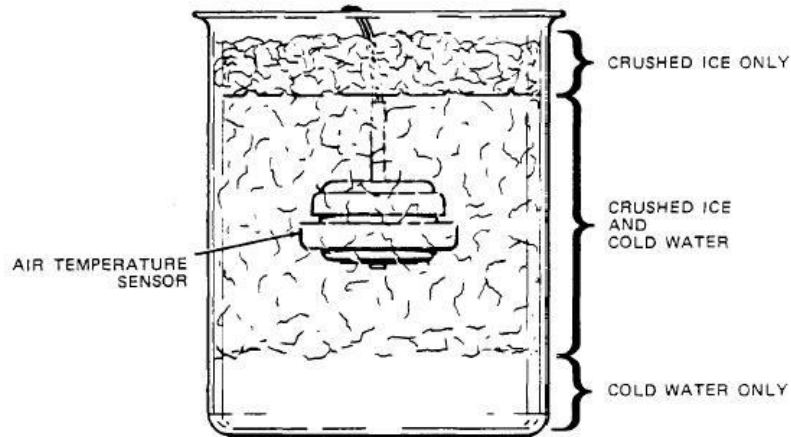

Figure 7-2. Air Temperature Sensor in Ice Bath
6. Immerse the air temperature sensor in an ice bath, figure 7-2. Reconnect the sensor to the main harness, maintaining correct polarity: black to black, red to white.